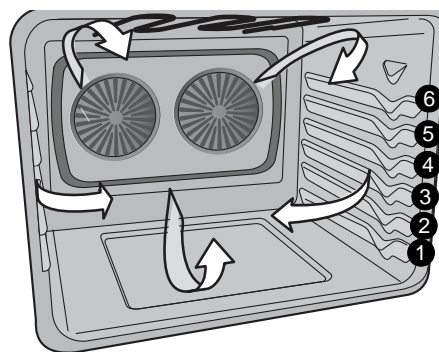

Figure 14: Convection air flow and rack positions
Convection baking enables you to obtain the best results when baking with multiple pans and racks. The convection function uses a fan to circulate the oven heat uniformly and continuously around the oven (Figure 14).
- For best results when baking cakes using two oven racks, place Glide rack in position 4 with the flat handle rack in position 1. (See Figure 14).